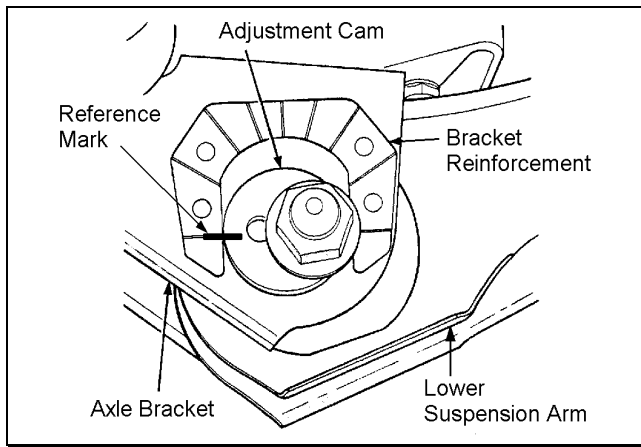

Figure 4
2)  If applicable, paint or scribe alignment marks on the adjustment cams and axle brackets for installation reference. See Figure 4.